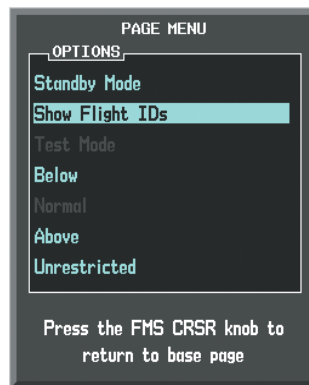

Figure 6-176 Traffic Map Page Menu
- 2) Turn the small **FMS** Knob to choose 'Show Flight IDs' or 'Hide Flight IDs' (choice dependent on current state) (Figure 6-176).